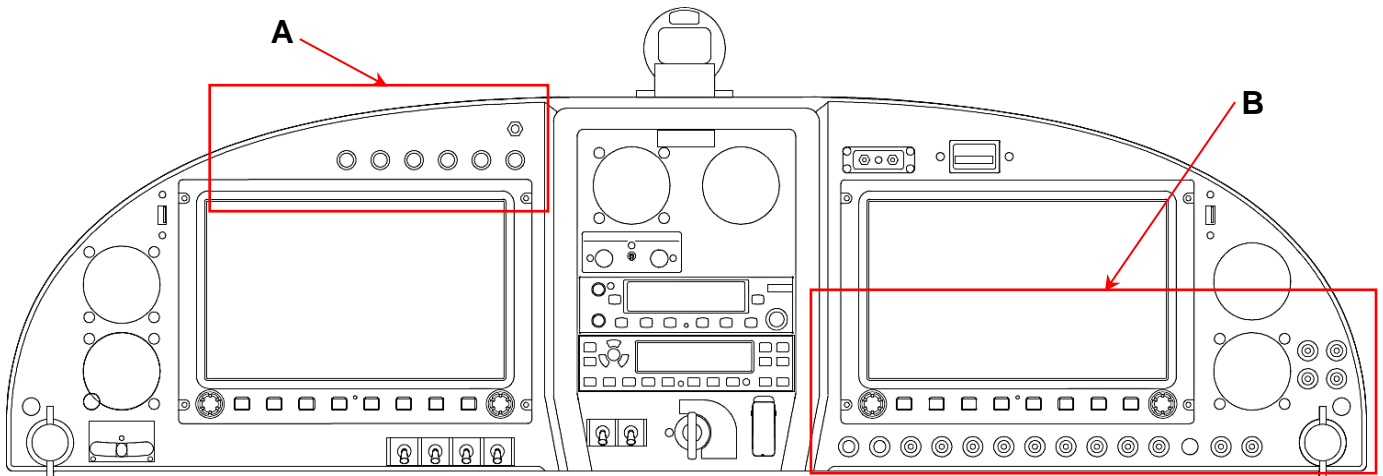

Fig. 8
- 3.1.1. Drill a hole $\varnothing 8.5$ mm for the check lamp (area A, Fig. 8) and $\varnothing 9.5$ mm for the circuit breaker (area B) on the instrument panel.